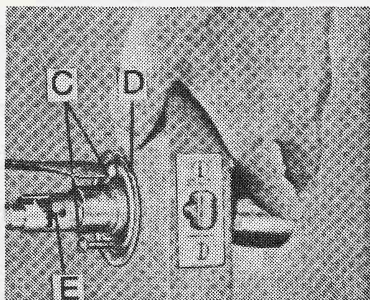

Fig. 10-3.
3. Refer to Fig. 10-3. Remove the two machine screws (C) so the inside mounting plate (D) will slip off over the inside spindle (E). The lock will now slip out of the hole.